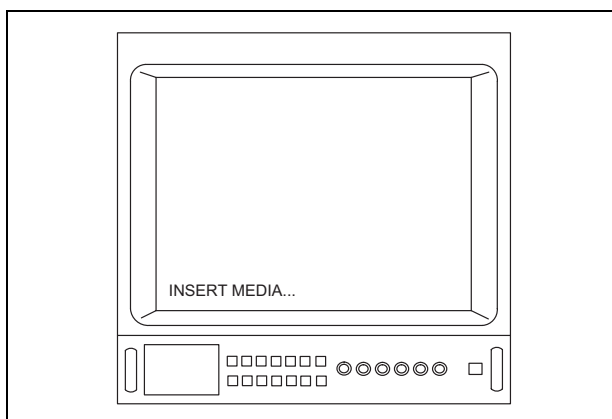

Figure 5.97
- If the PC card adapter or Memory Card is not inserted, the message shown in Figure 5.97 is displayed on the video monitor.